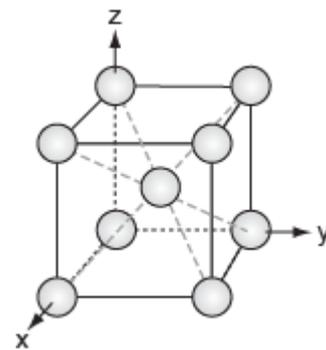

Figure C34. The BCC unit cell.
**E30.** Figure C34 is a sketch the BCC unit cell, the structure of iron and mild steel